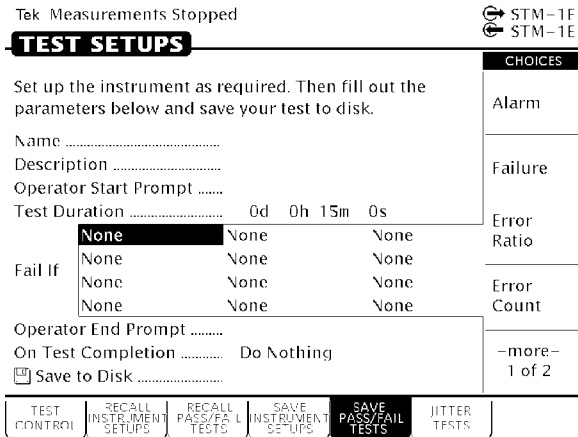

Figure 3 19: Entering Fail If Conditions
6. Highlight the first entry in the first column of the Fail If table (see Figure 3 19). Select one of the preset choices to specify a condition type.
7. Highlight the first entry in the second column (see Figure 3 19). If you wish to specify a specific condition, select one of the preset choices.
8. Highlight the first entry in the third column (see Figure 3 19). Select one of the preset choices to set the threshold. Select **USER** to specify a threshold other than one of the preset choices. (USER is not available for Alarm or Failure condition types.)